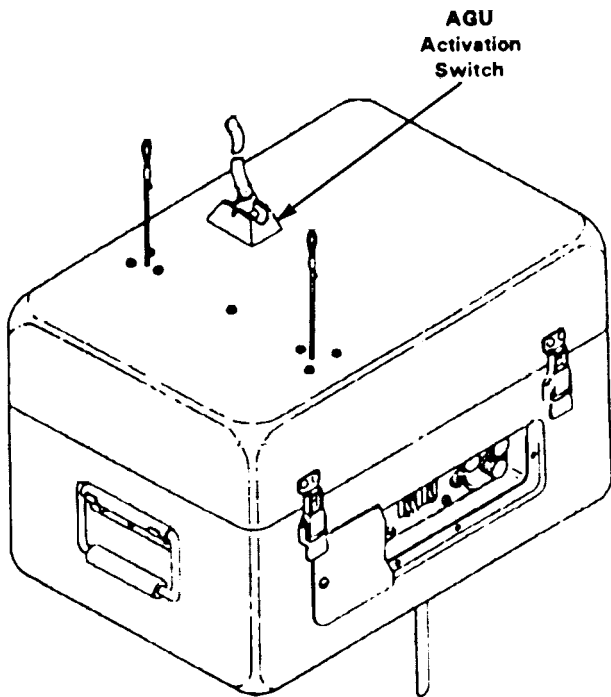

Figure 2-1. AGU Activation Switch
- a. AGU Activation Switch. (See Figure 2-1.) The AGU activation switch is a spring-loaded switch which is tied to the rigging in such a manner that it is automatically turned on by deployment of the parachute. Unless the parachute has been deployed, this switch is kept off by inserting a tab into the switch assembly. When the parachute is deployed, the tab is extracted from the switch assembly by a lanyard attached to the deployment bag and the switch is turned on. This conserves battery life since the AGU is turned on only during parachute deployment.